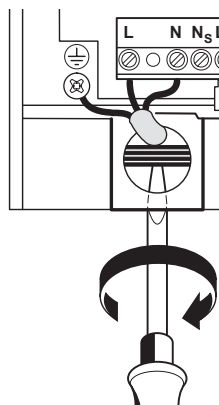

Fig. 30
- ▶ Feed cable through cable grommet and connect the mains supply cable, see fig. 30.